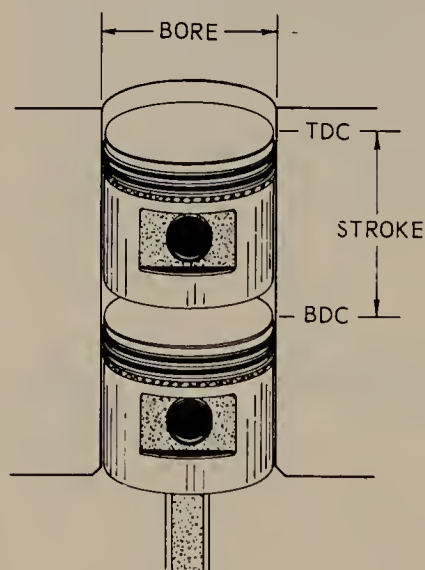

FIGURE 5.7 Bore and stroke of an engine cylinder.
5.7 Bore and Stroke. The size of an engine cylinder is referred to in terms of the bore and stroke. The bore is the diameter of the cylinder. The stroke is the distance the piston travels from BDC (bottom dead center) to TDC (top dead center). (See Fig. 5.7.) The bore is always mentioned first. For example, in a 4- by $3\frac{1}{2}$ -in. cylinder, the diameter, or bore, is 4 in., and the stroke is $3\frac{1}{2}$ in. These measurements are used to figure the piston displacement.